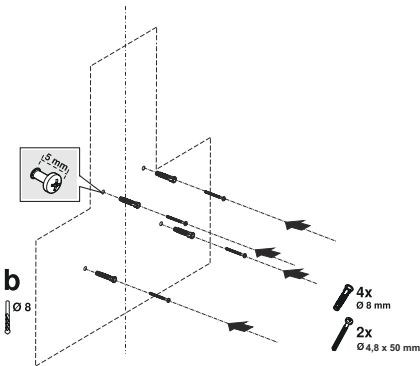

Fig. 12
1. Draw a mid location line from the ceiling perpendicular to the lower edge of the hood (Fig. 12).
2. To drill the suspension holes of the flue, place the mounting template on the surface where the appliance will be mounted on and mark the mounting holes (Fig. 12/b).
3. Drill the suspension holes with $\text{Ø}8\text{mm}$ drill and place the dowels (Fig. 12/b).
2 piece 4,9x950 suspension screw with a clearance of 5 mm between the screw head and the wall (Fig. 12/b).